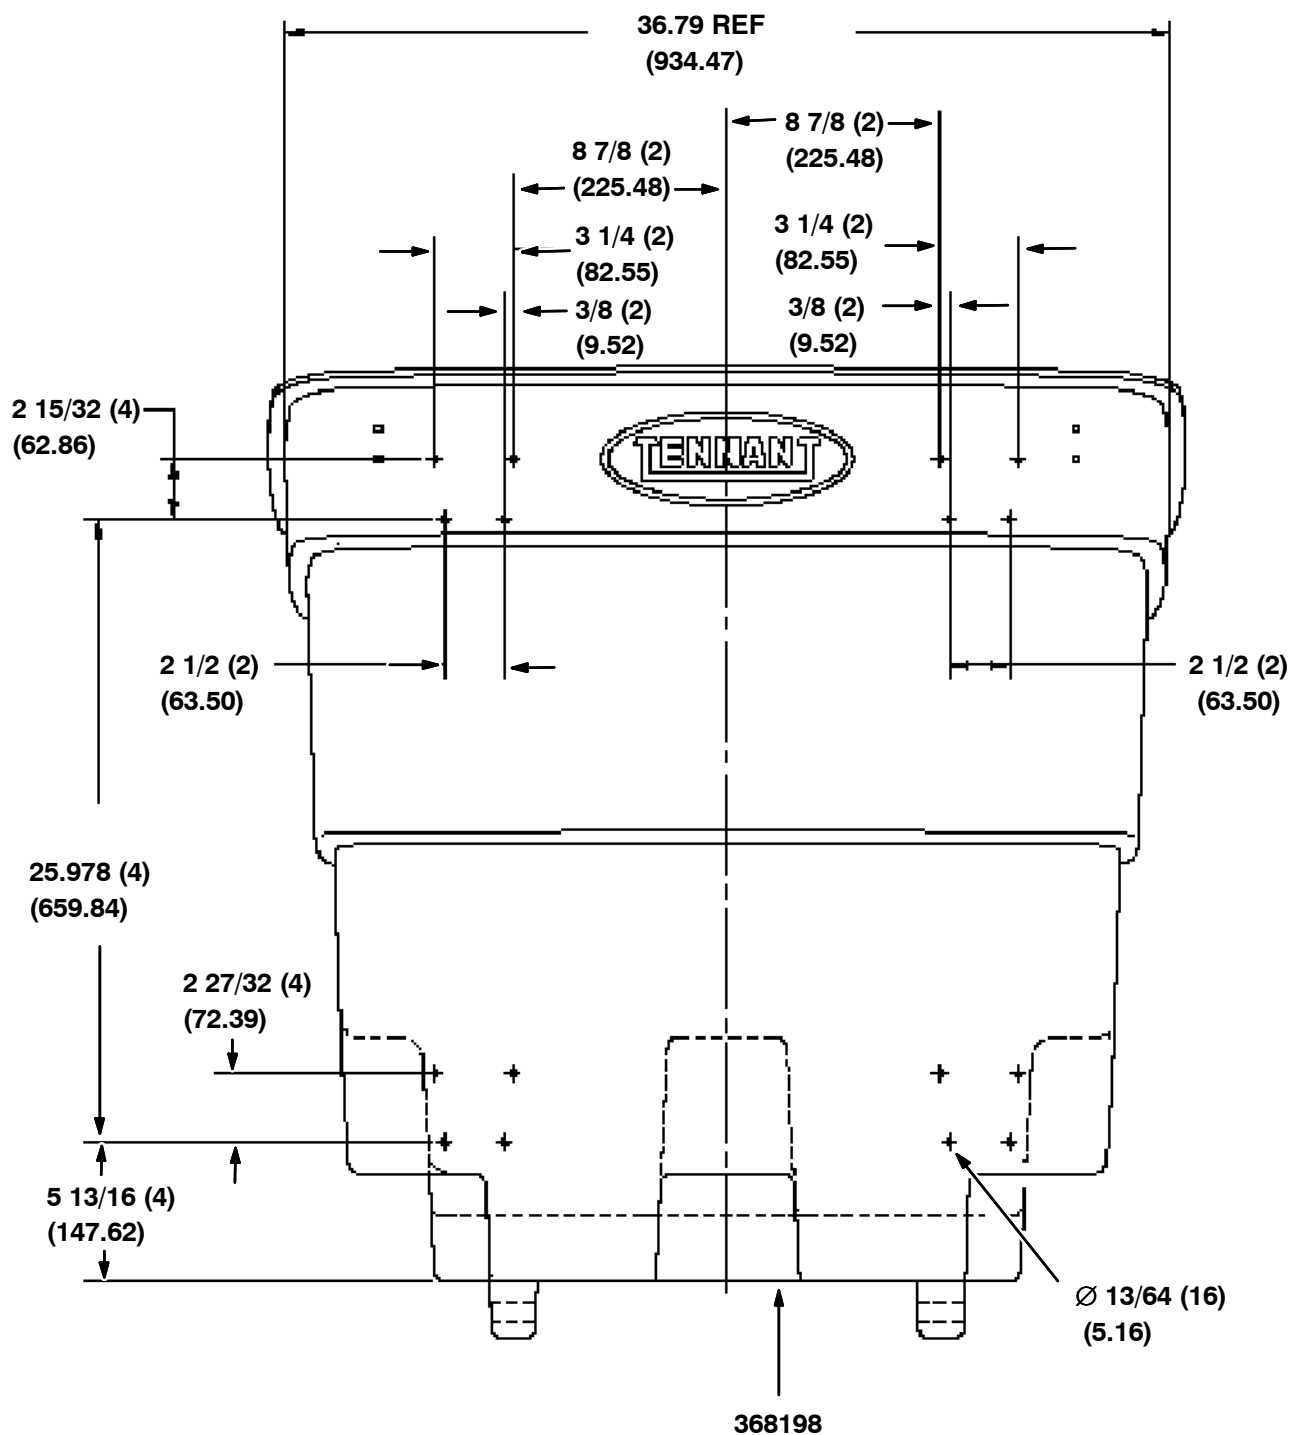
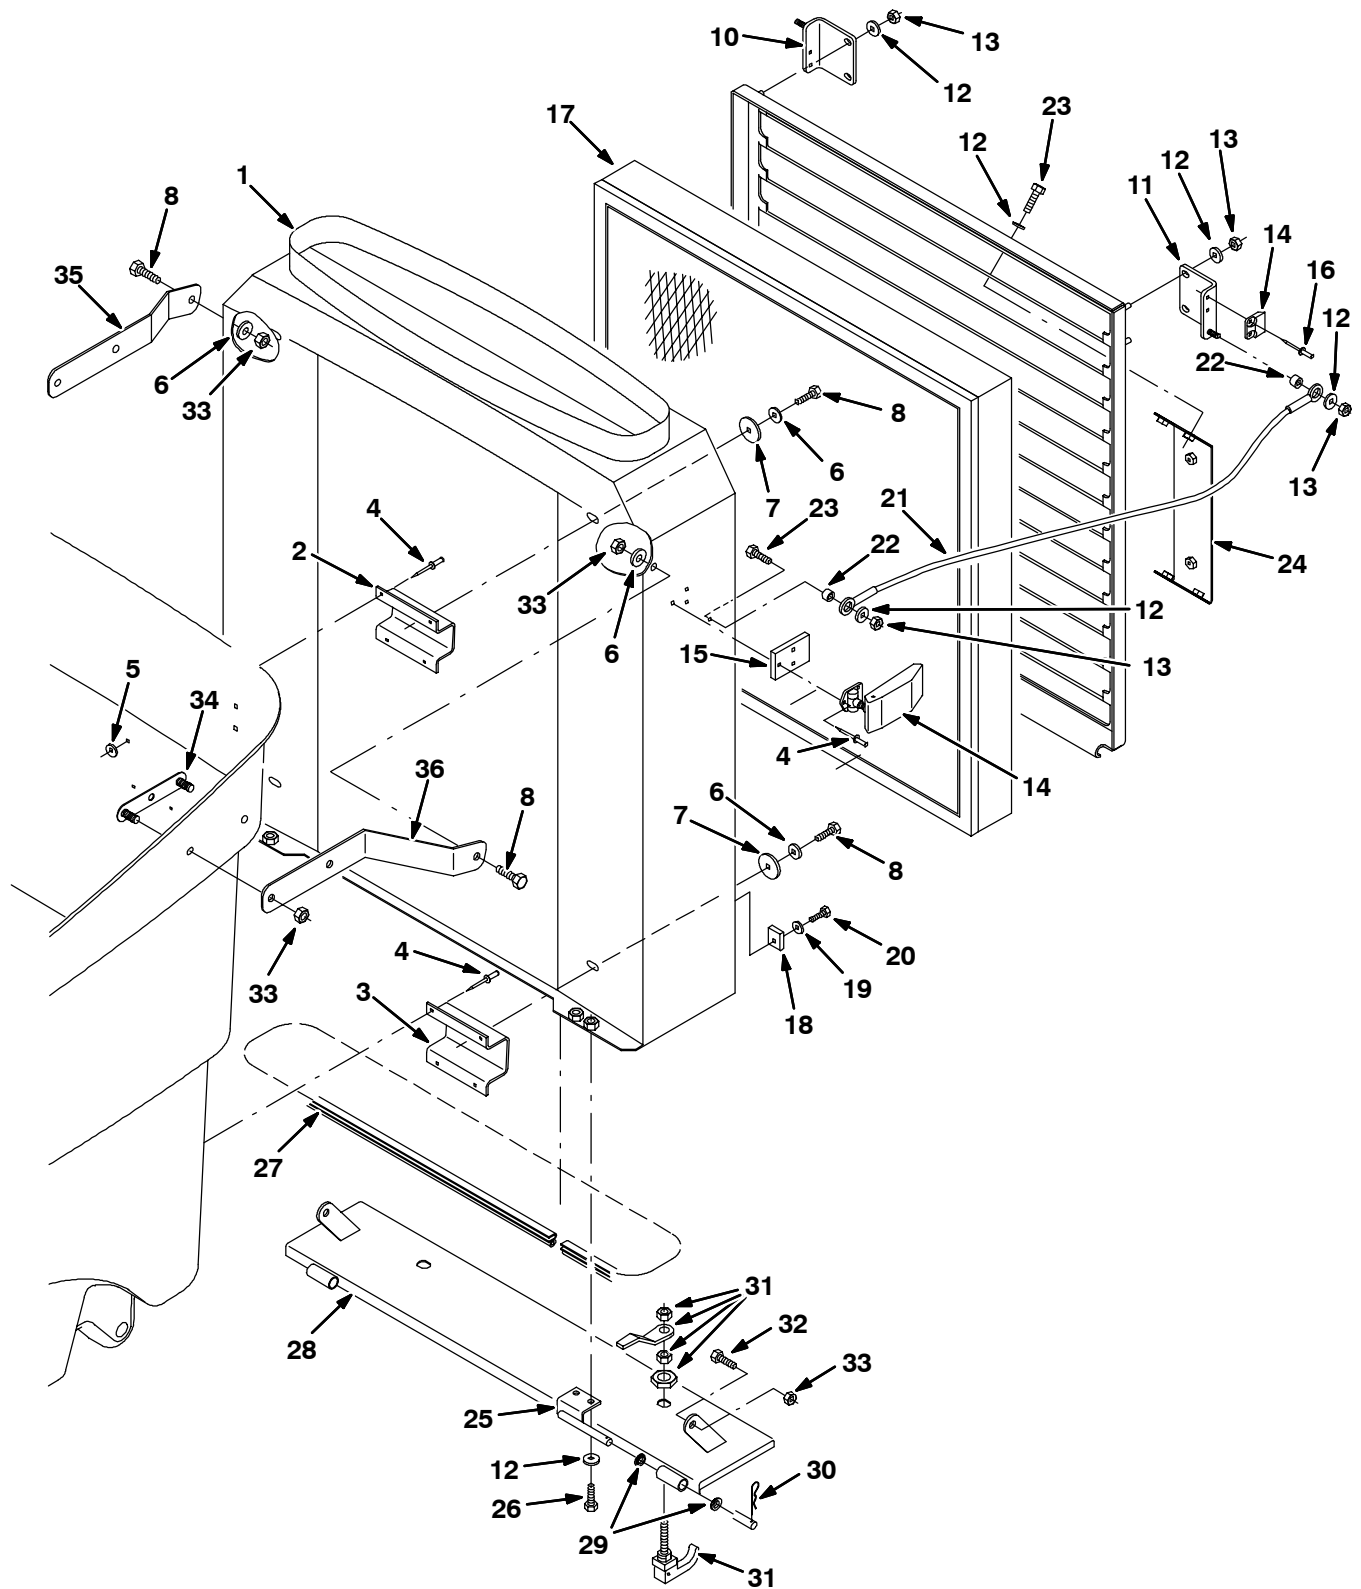
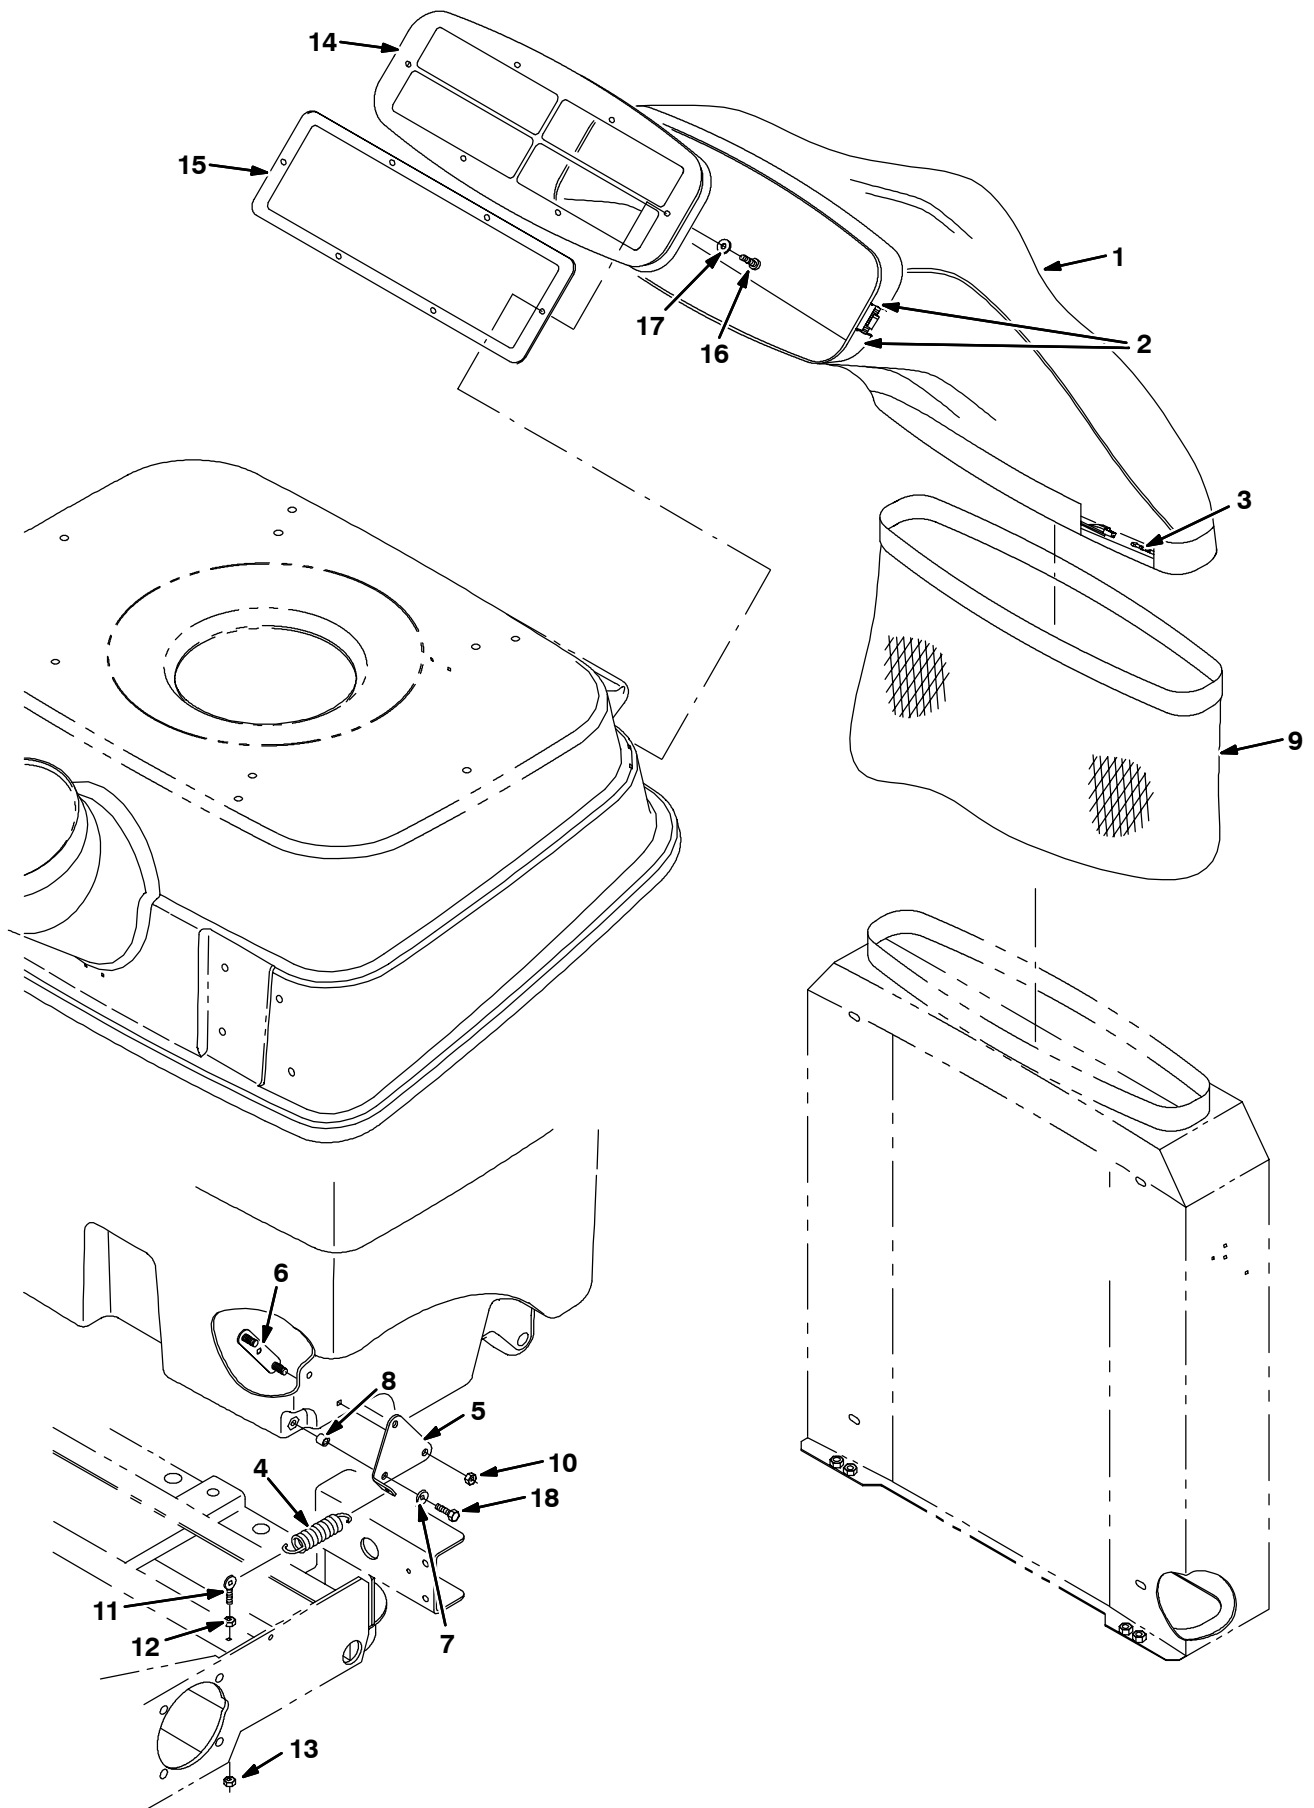

FIG. 3 - MOUNTING BRACKET HOLE DIMENSIONS
FIG. 4 - Dust Filter Housing Group (Serial Number 000000-001535)
FIG. 5 - Dust Filter Bag Group (Serial Number 000000-001535)
10. (Machines S.N. 000000 - 001741) Using the upper (27) and lower (28) filter housing mounting brackets as templates, mark and drill sixteen mounting holes in the debris hopper according to the dimensions in figure 5. (Refer to FIG. 3)
(Refer to FIG. 5 and 7)
3. Mount one end of the filter inlet duct (1) over the vacuum exhaust plate (14) with the worm drive clamps (2). (Refer to FIG. 5 and 7)
NOTE: Dust Filter Kit, Tennant Part Number 367613 includes Fig. 4 and Fig. 5